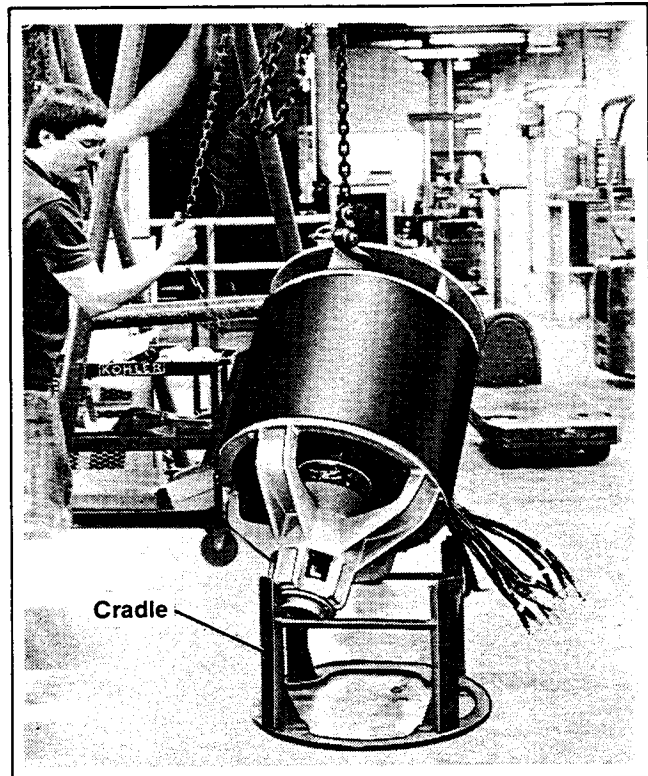

Figure 5-4. Hoisting Generator Assembly
13. Hook hoist to adapter and suspend generator assembly. See Figure 5-4.